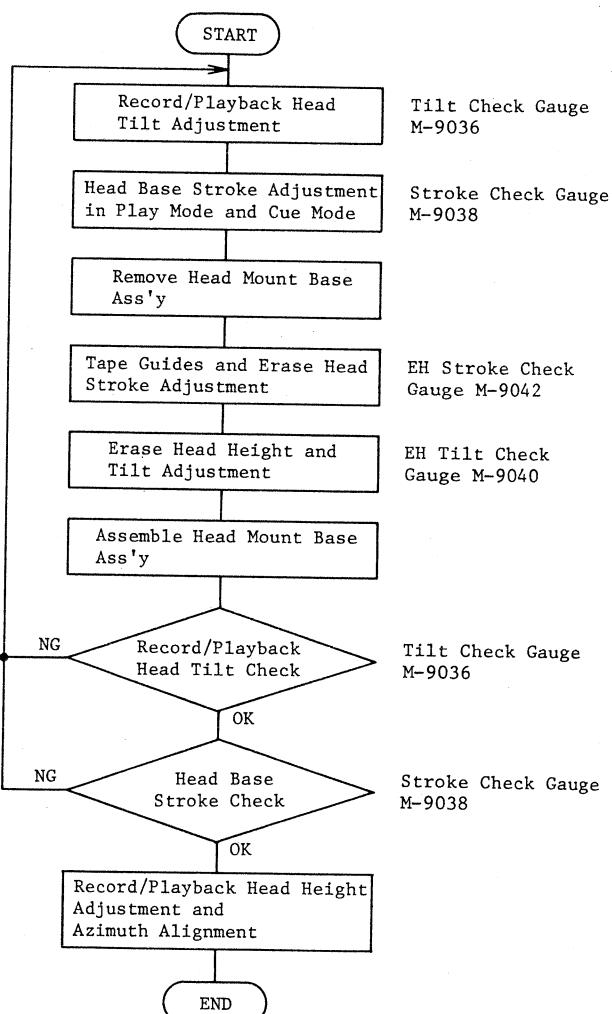

Fig. 5.4 Flow Chart
Note: On items 5.3 – 5.7, please refer to Fig. 5.4 adjustment flow chart.